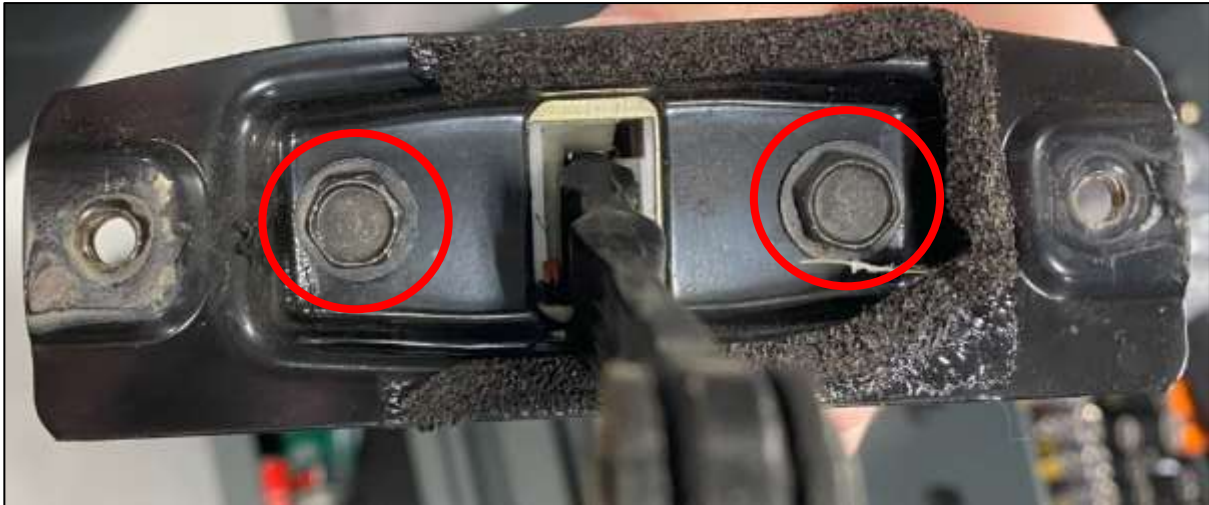

Figure 104
4. Remove the (2) two 10mm nuts that secure the Plate and remove the Black Plate from the Hinge and set aside. Again, make sure to note the Orientation of the Plate for reinstallation. *Figure 104.*